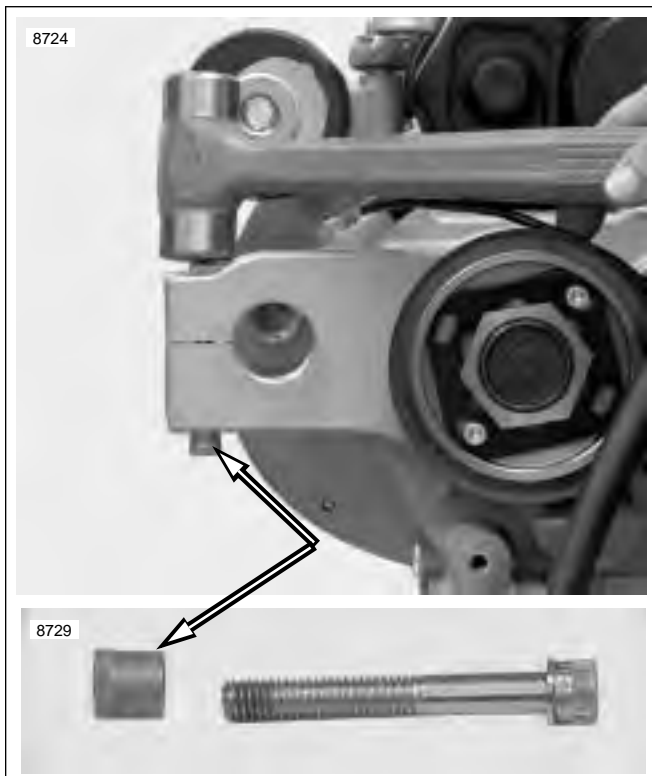

Figure 3-28. Removing Threaded Insert
- c. See Figure 3-28. Swingarm pivot shaft pinch bolt threaded insert.